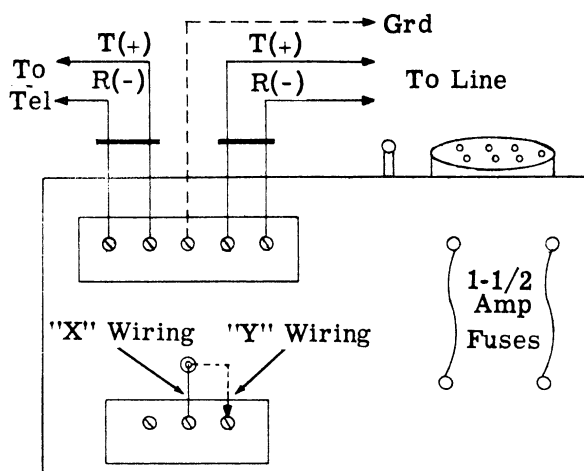

Fig. 3. Illustration of Wiring Connections.
3.01 Connections to the line and to the telephone are shown in Fig.3.